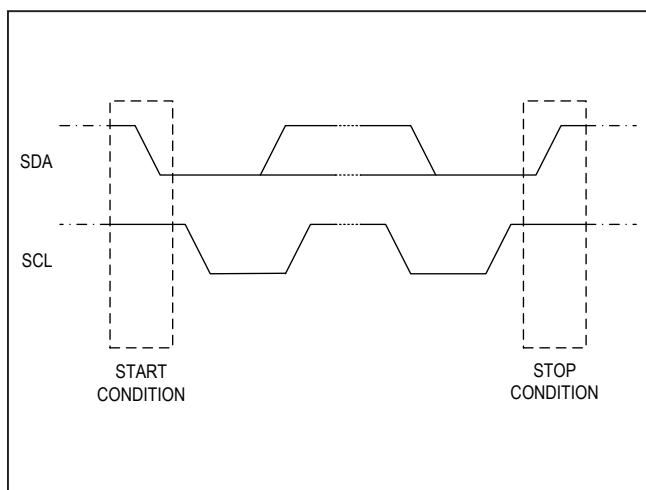

Figure 23. I2C Start and Stop Conditions
Both SCL and SDA remain high when the bus is not busy. The master signals the beginning of a transmission with a START (S) condition by transitioning SDA from high to low while SCL is high. When the master has finished communicating with the IC, it issues a STOP (P) condition by transitioning SDA from low to high while SCL is high. The bus is then free for another transmission (Figure 23). Both START and STOP conditions are generated by the bus master.